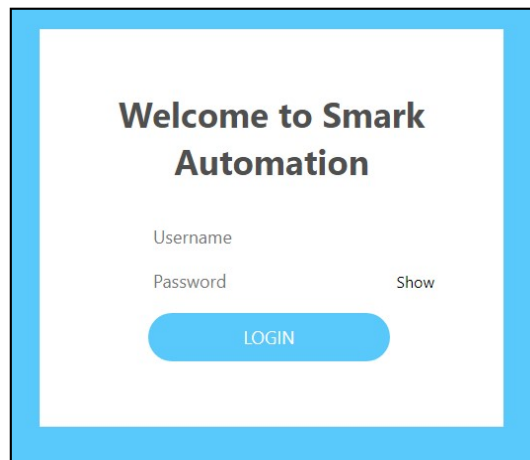

Figure 33: Login Page
- 3. Access the Device via Browser:** Open a web browser(e.g., Google Chrome, Microsoft Edge) on a computer, enter the IP address exactly as shown on the OLED screen into the address bar, and then press Enter to navigate to the device interface. A page will then open, as shown in Fig 33.